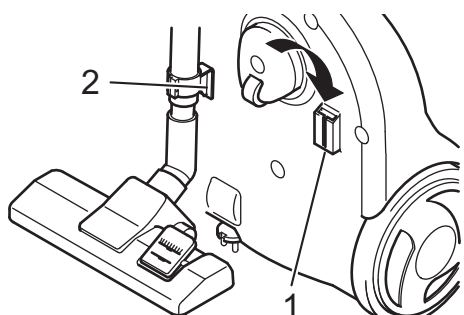

Fig. 16
■ When **putting away** the vacuum cleaner, you can also use the stow-away hook mount (Fig. 16/1) on the underside of the cylinder vacuum cleaner. This is where you can hook the stow-away hook (Fig. 16/2) onto the telescopic tube (Fig. 16).